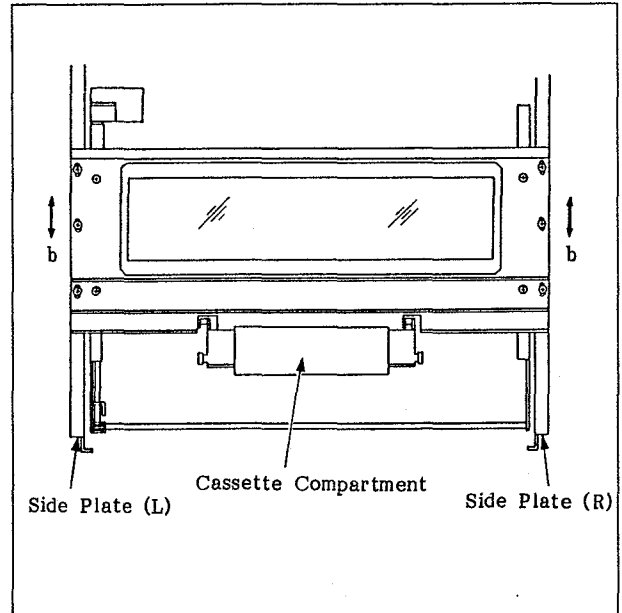

Fig. 6-14 Adjusting the Position of the Cassette Compartment 1
11. Adjust the position of the cassette compartment by sliding it into the direction of arrow b so that the clearance between the bent portion of the cassette compartment and the end face of the dummy cassette meets the required specification shown in step 8. Then, tighten the six screws that were loosened in step 10. (Fig. 6-14)